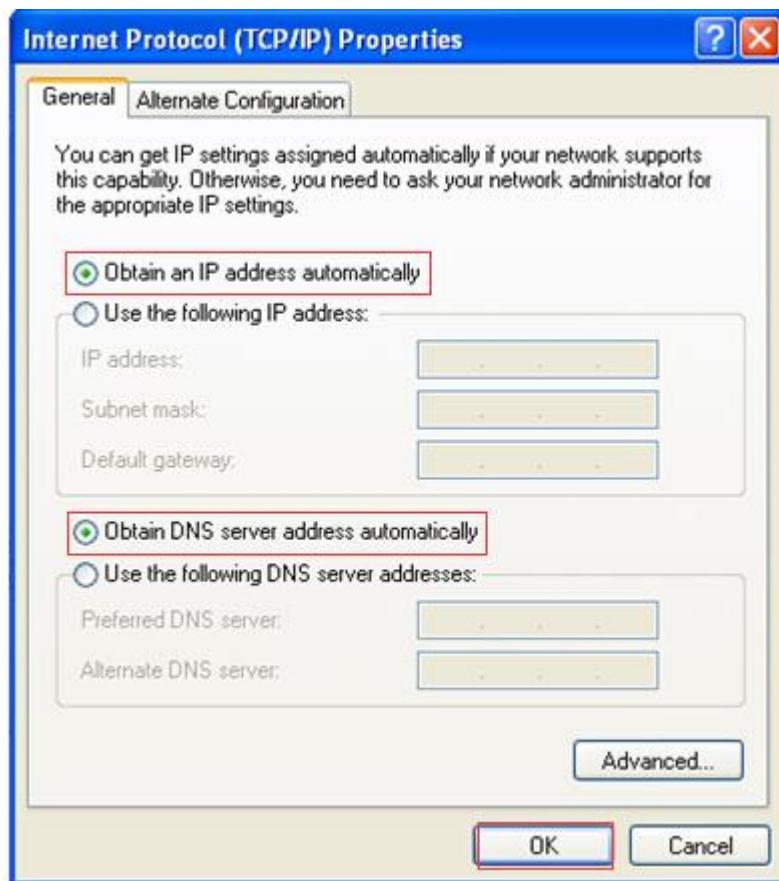

Figure 4-9 Internet Protocol Version 4 (TCP/IPv4) properties
Step 3 In " This connection uses the following items (0): ", select Internet Protocol Version 4 (TCP/IPv4) and double-click the Internet Protocol Version 4 (TCP/IPv4) Properties window, as shown in Figure 4-9.
Step 4 If the Internet Protocol Version 4 (TCP/IPv4) properties are shown in Figure 4-9, no changes are required ; If the Internet Protocol Version 4 (TCP/IPv4) property is not shown in Figure 4-9, select Automatically get IP address in General.